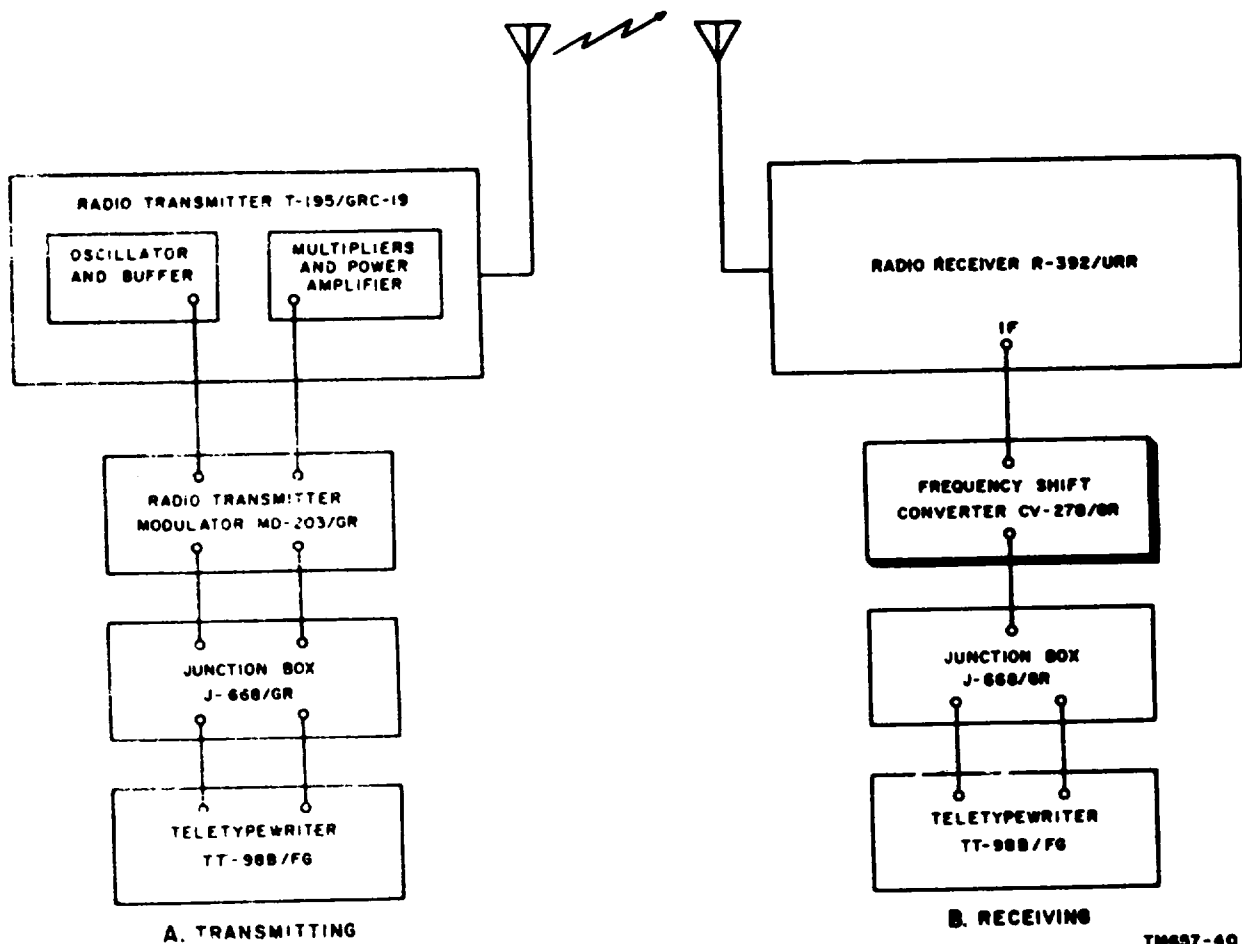

Figure 1. Radio teletypewriter communications system, simplified diagram.
a. The teletypewriter signals developed in Teletypewriter TT-98B/FG (fig. 1) are supplied through Junction Box J-668/G8 to Radio Transmitter Modulator MD-203/GR. The modulator is connected directly into the exciter section of Radio Transmitter T-195/GRC-19